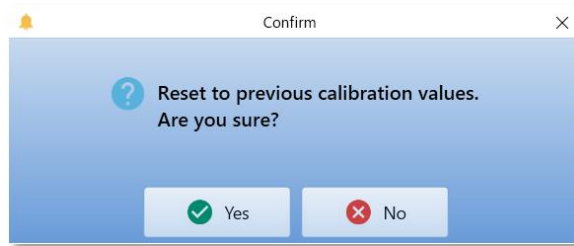

Figure 6.53 Confirmation message
- (4) Open the confirmation message by clicking on [OK] button. (Figure 6.53)